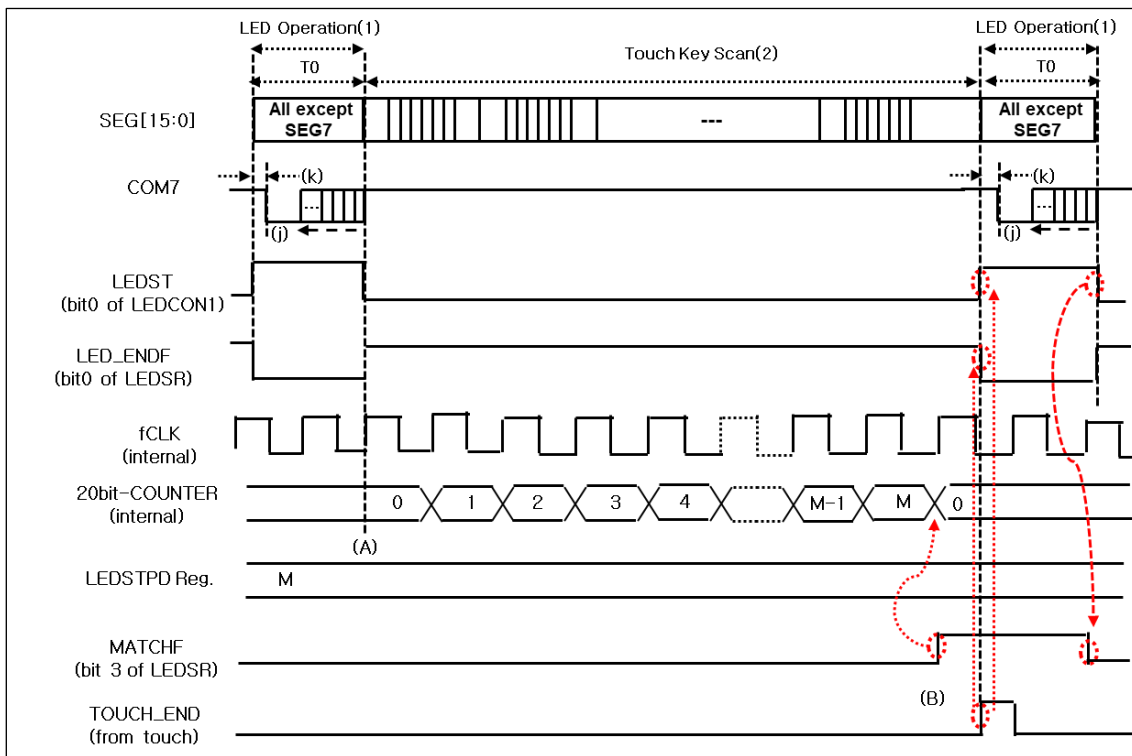

Figure 110. Smart Share Mode
Figure 110 show smart share mode in case of CSER = 1000_0000B. An interrupt occurs at point (A) here the LED operation terminated when LED_INTE is set. At the same time, 20-bit counter starts to increase by the internal enable bit although 20-bit STPD register is matched with the counter and then MATCHF (LEDSR[3]) is set “1”.